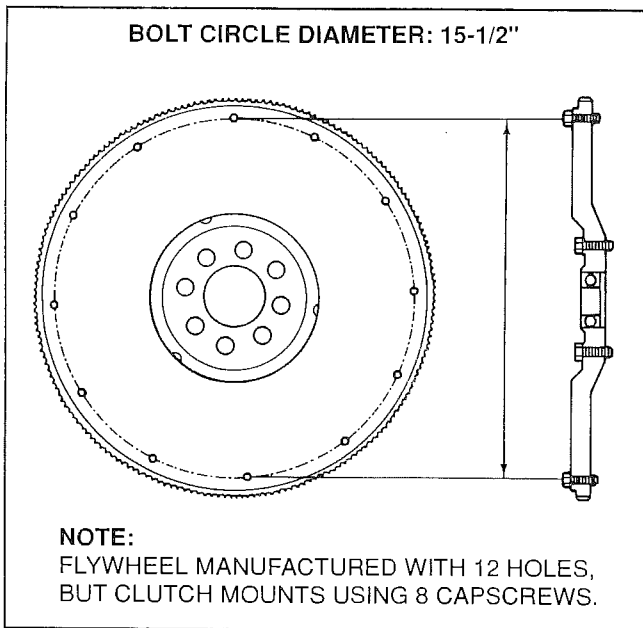

Figure 4-5. Measuring Points on Flywheel for 14-inch Clutch
- Measure bolt circle diameter (Fig. 4-5).